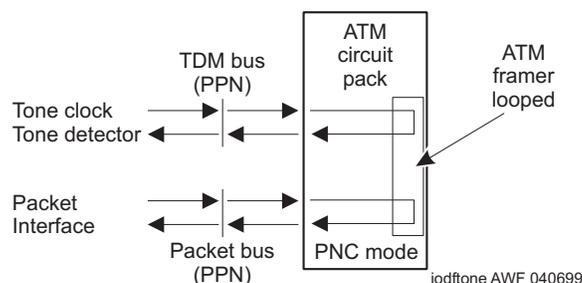

Figure 19. ATM Board Framer Looparound Test (#1260)
- **The circuit (TDM) path:** one of the tone generators sends a bit pattern through a TDM bus time slot to the ATM framer. The pattern is converted into ATM cells and looped back to the ATM-EI board, which converts the cell back into the bit pattern and puts it on a pre-determined time slot. A tone detector tests for the bit pattern and reports the test result. This test verifies that a large portion of the ATM-EI's circuit paths are functioning correctly. Figure 19 shows a diagram of the test.